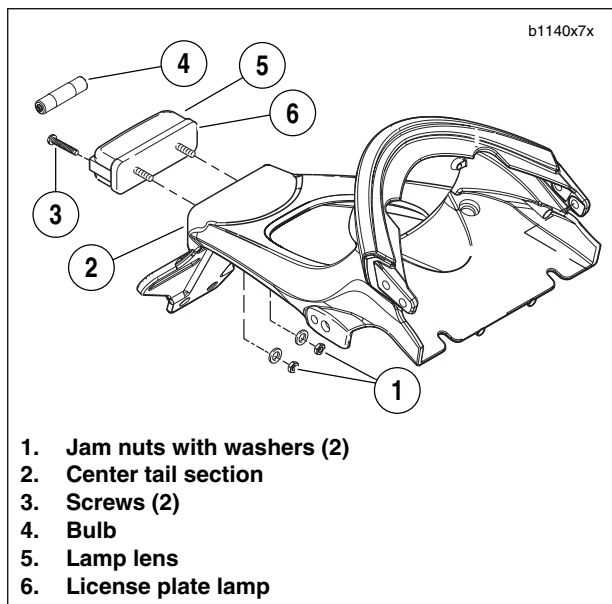

Figure 7-51. License Plate Lamp
See Figure 7-51. If replacing bulb only, remove both lamp lens screws (3), remove lamp lens (5) and remove bulb (4). Replace bulb and install lens and tighten screws.